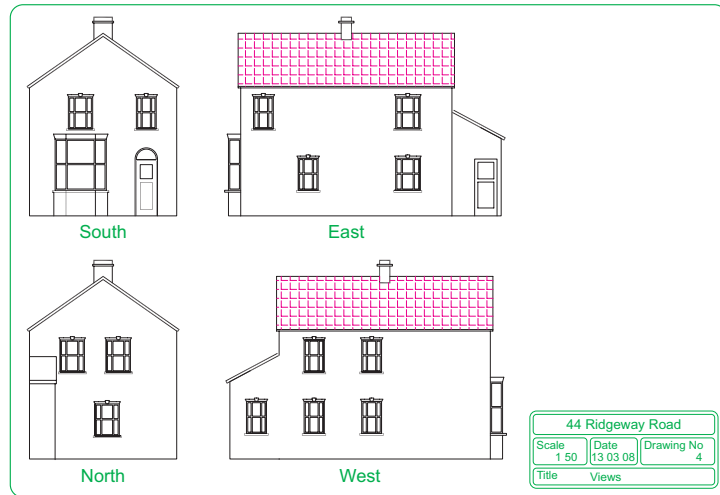

Fig. 16.4 Views of the original house
4. Views of all four sides of the original house drawn to a scale of **1:50** (Fig. 16.4).